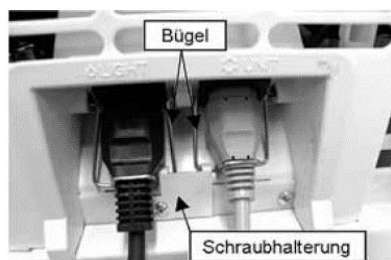

Fig.11: Connection with IEC box
Devices can be equipped with an IEC box in combination with plugged connecting lines (see Fig. 11).
► The bar of the IEC box must be fixed correctly and secured by the screw holder (see Fig.11).